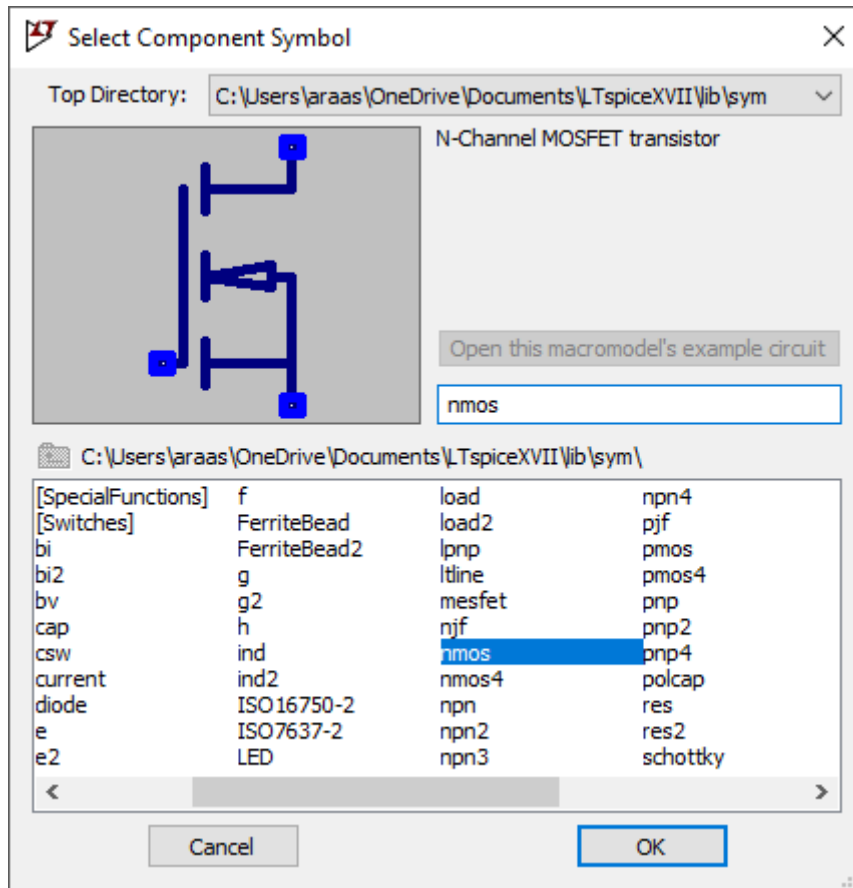

Fig. 1. nmos transistor in component library
2. Add a **pmos4** transistor and a **nmos4** transistor as shown in Fig. 1.